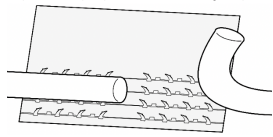

Figure 3
6. Position the first nerve stump slightly past the midpoint of the device, place onto one of the central microhook columns and apply a gentle reverse and downward tug to engage the underlying microhooks into the epineurium. The cut surface of the nerve stump should end up at the midpoint of the device (Fig. 3).